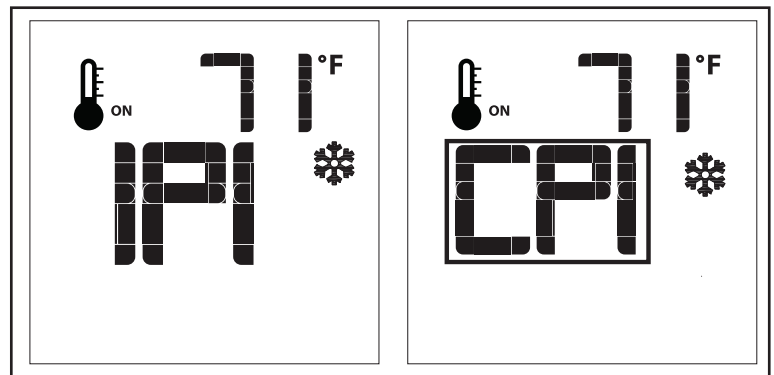
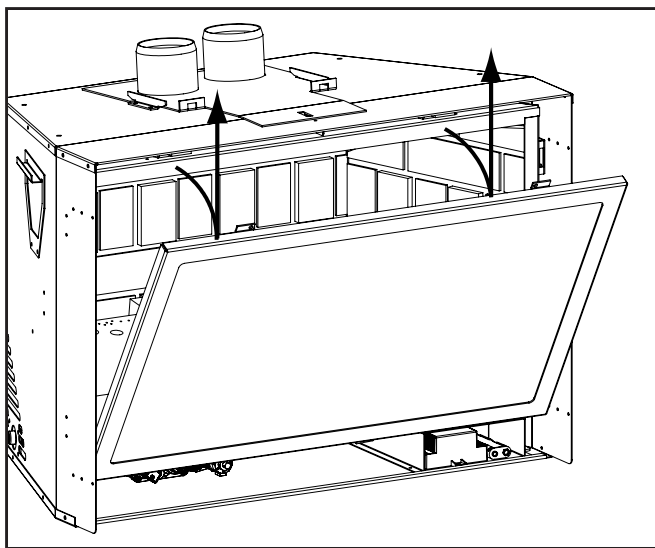

Figure 18: CPI Pilot Mode
Figure 20: Door Removal
The glass door of the fireplace is retained at the top by two spring latches as shown in Figure 18. Release the latches by placing the hooked end of the door tool in the hole on the door latch mechanism (see Figures 19-A,B) and pulling the latch forward then out to the side. When the two (2) latches have been released, tilt the top of the door forward and lift up to remove the door (Figure 20). To re-install the glass door simply reverse the procedure.